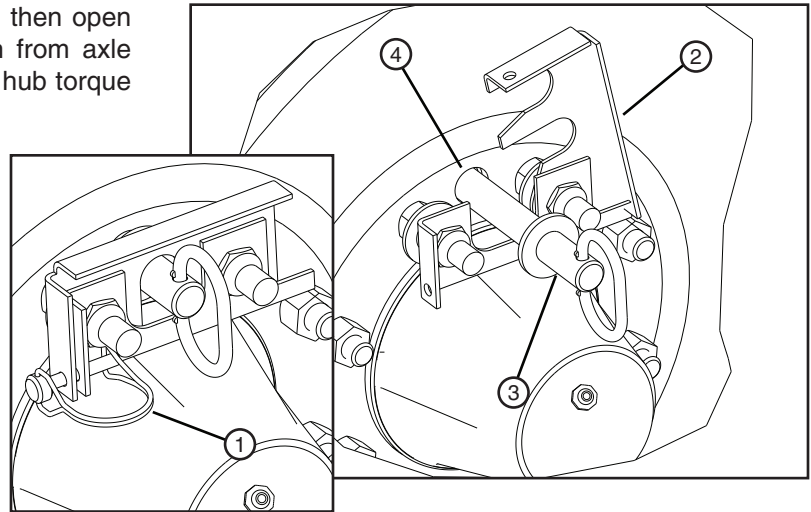

Figure 63-1 1. Lynch Pin 2. Retainer Clip 3. Torque Pin 4. Hub Torque Pin Receiver
5. Remove lynch pin from retainer clip, then open retainer clip and pull the torque pin from axle torque arm behind gearbox hub and hub torque pin receiver. See figure 63-1.